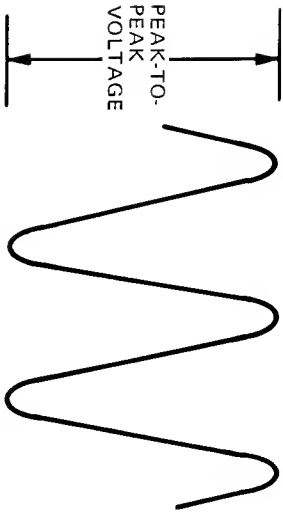

Figure 15. Peak-to-Peak Measurement
6. Count number of vertical divisions from most negative to most positive portions of waveform (estimate to nearest tenth of division; see figure 15).